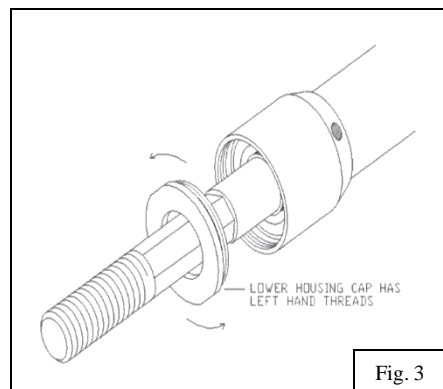

Fig. 3
6. Install the new scraper seal (1SC) into the lower housing cap (LHC-1) and install onto the lower seal housing (LSH175-1) with blue Loctite on the threads by turning it counter-clockwise (left-hand threads). **(Fig. 3)**